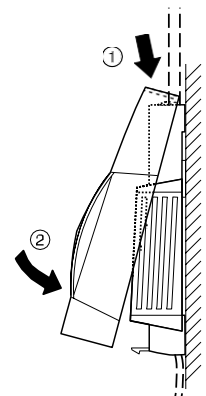

Fig. 4: Placing housing cover in position
- ▶ Place the housing cover in position above and snap it down (see Fig. 4).
- Place the housing cover in position above and snap it down (see Fig. 4).